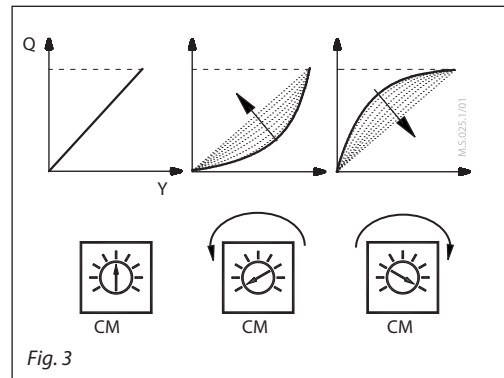

Fig. 3
**DIP4: LIN/MDF – Characteristic modification function (Fig. 3):**